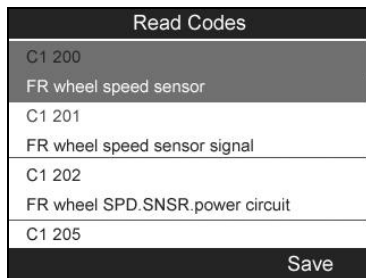

Figure 4.27
- 2) A data list of TPMS DTCs retrieved from the vehicle's ECU will show up. If the data covers more than one screen, use the **UP/DOWN** scroll button to view additional DTC information, and press the **Y** button to save data for future review, or press the **N** button to exit without saving. (Figure 4.27)